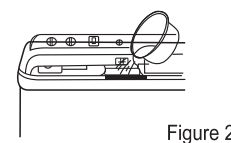

Figure 2
- Fill water and add dissolved powder detergent until water reaches a suitable level. (Figure 2)